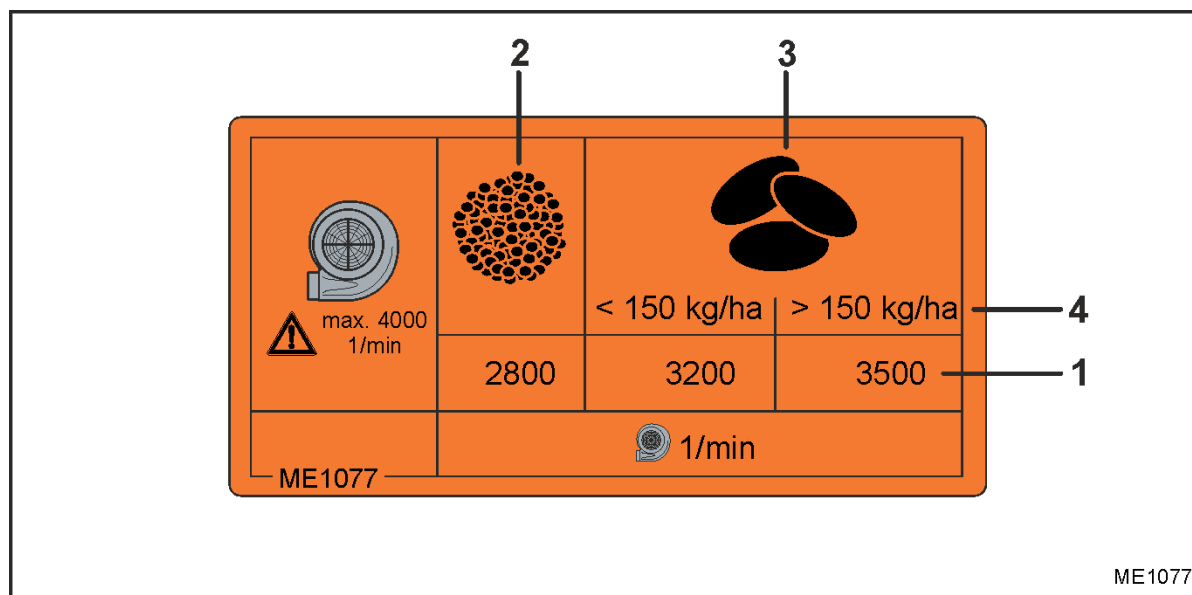

Fig. 46
The blower fan speed determines the air volume of the air current. The higher the blower fan speed, the greater is the air volume generated. The required target blower fan speed can be found in the following table (Fig. 46, page 66).
The required blower fan speed (Fig. 46/1) depends on the seed
- Fine seed types (Fig. 46/2), e.g. rapeseed or grass seed
- Grains or legumes (Fig. 46/3) and the seed rate (Fig. 46/4).
Seed type:..... Cereal (Fig. 46/3)
Seed rate: 130 kg/ha (Fig. 46/4)
Required blower fan speed (Fig. 46/1): 3200 rpm.